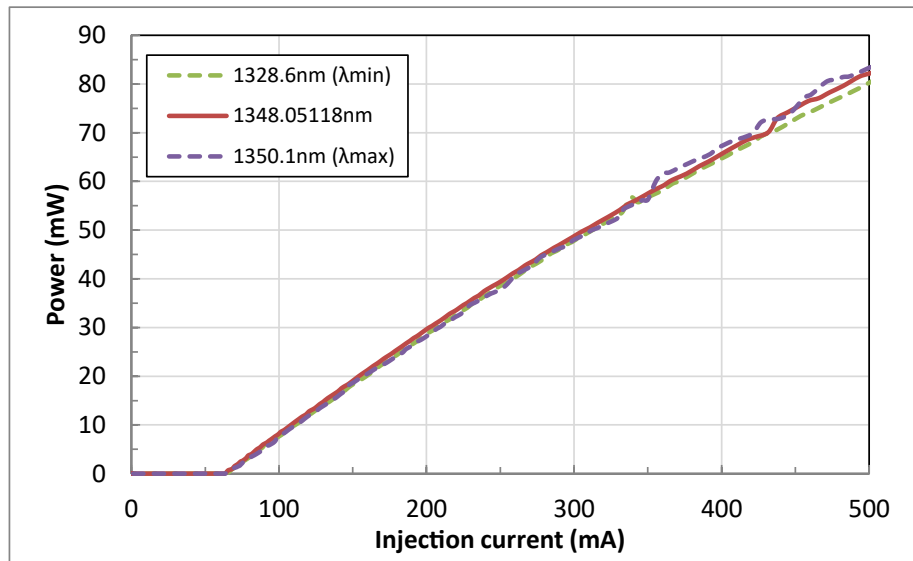

Figure 2.1: Sample laser diode power-current characteristic curves.
Above threshold, the laser power vs. injection current is well approximated by a linear curve function (see figure 2.1). Initially the current should be set above threshold, but well below the maximum operating current, until the laser is fully aligned with your experiment.
1. Set the laser current so that the output power is sufficient, taking care to ensure that the internal cavity power is below the maximum rated for the bare diode i.e. without feedback, if applicable (see figure 2.1).